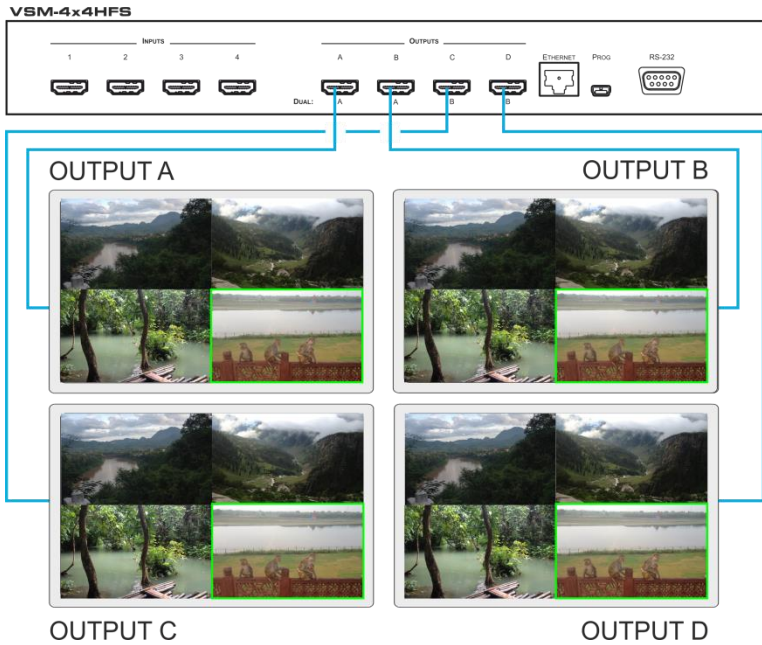

Figure 9: Connecting the VSM-4x4HFS in the Quad Operation Mode
To connect the **VSM-4x4HFS** in the QUAD mode as illustrated in Figure 9, do the following:
1. Connect an HDMI source to up to four inputs (for example, a Blu-ray disk player) to the INPUT 1 connector (from 1 to 4), not shown in Figure 9.
3. Connect the power cord (not shown in Figure 9).